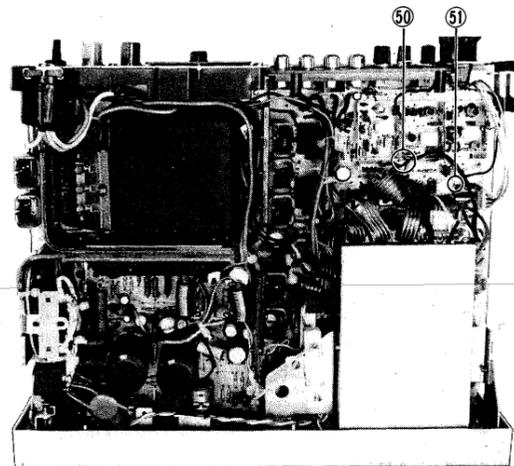

Fig. 7
9. Unsolder the leadwires (㉜, ㉝ in Fig. 7) from synthesizer block.
3. Rearrange the leadwires as shown in Fig. 7.